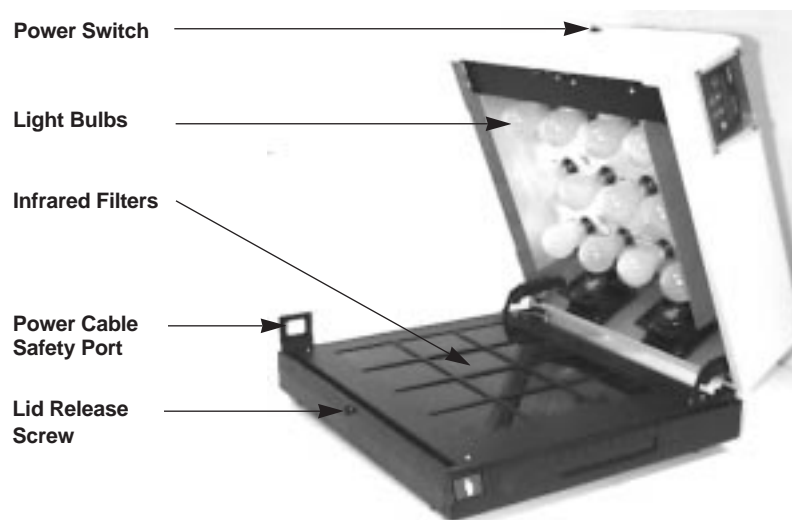

Fig. 2.5. GS-525 Screen Eraser with the lid opened.
The GS-525 Screen Eraser uses twelve 40-watt incandescent light bulbs (Figure 2.5). Locations of light bulbs are numbered 1 to 12. The GS-505 Screen Eraser uses six 40-watt incandescent light bulbs. Locations of light bulbs are numbered 1 to 6. When a bulb burns out, a warning beep will sound and the LCD panel will flash the location number of the defective bulb.
3. Turn the lid release screw (Figure 2.5) counter-clockwise.
The infrared optical filter (Figure 2.5) requires occasional cleaning to remove dust accumulation from its surface. To clean the filter, follow the steps recommended below: